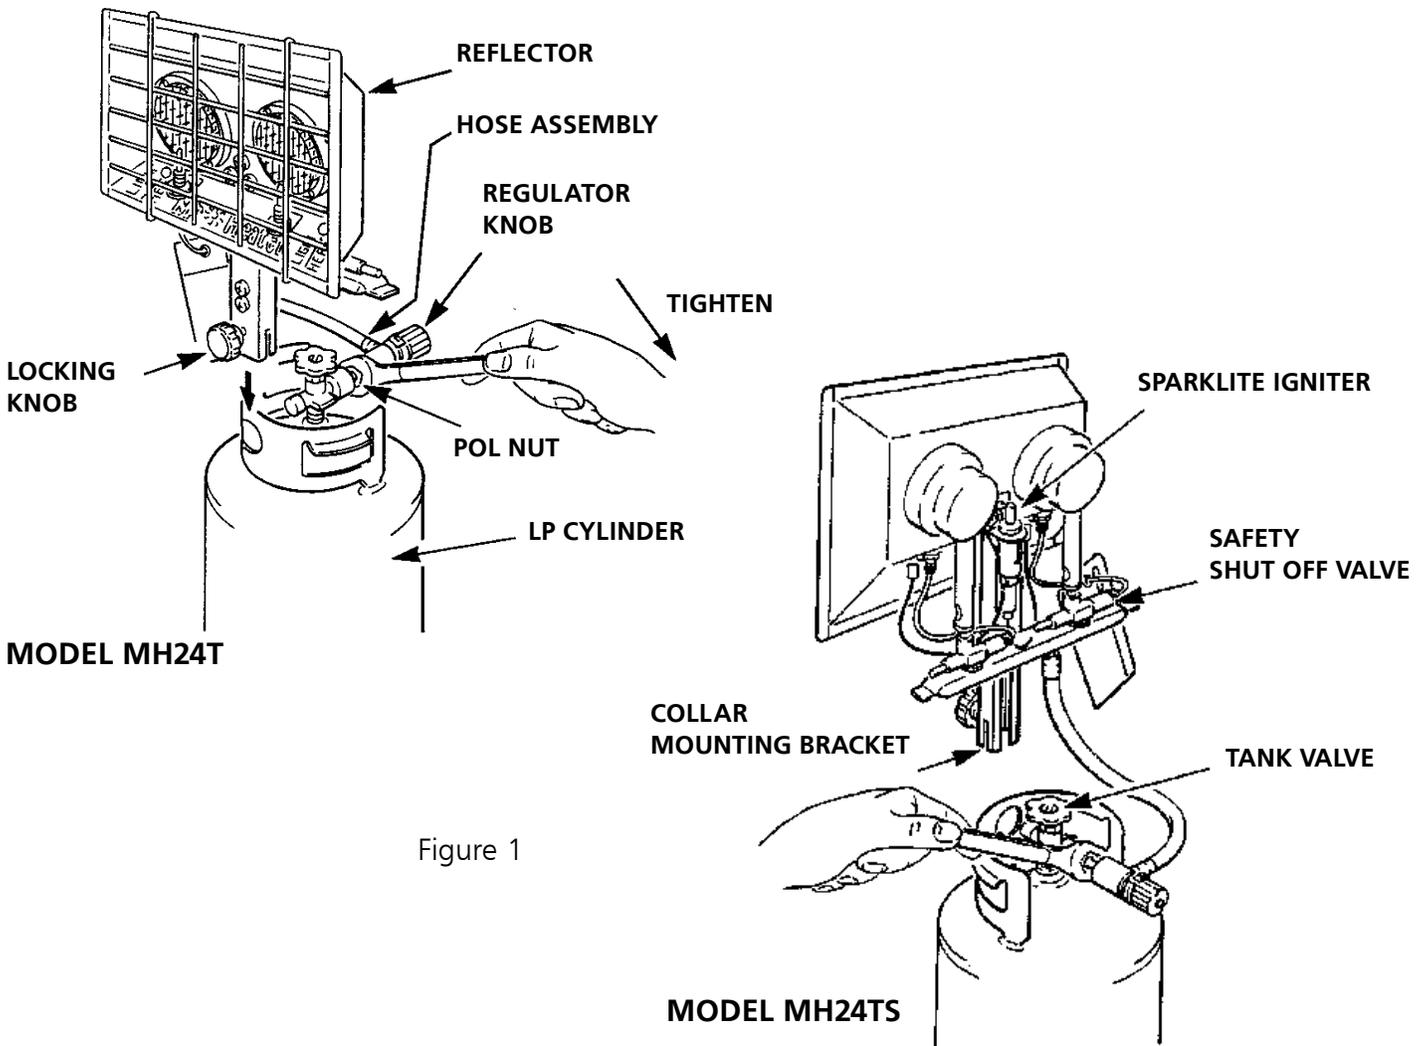

Figure 1
- 1.3 Place the slots of the black collar mounting bracket assembly onto the collar of the bulk tank (see Fig. 1)
- 1.4 Check reflector of the heater (See Fig. 1) and the collar mounting bracket assembly with the three #6-32x1/2 screws and #6-32 Keps hex nuts. Be sure screws and nuts are secure and tight.
- B. Carefully screw POL nut directly into bulk 20 lb. propane cylinder, counterclockwise. **REMEMBER** – This is a left hand thread – see Figure 1. Make sure the heater is in a vertical upright position and directed away from the collar of the bulk tank. Use a 7/8" open end wrench to tighten the POL fitting – left hand thread – see Fig. 1.